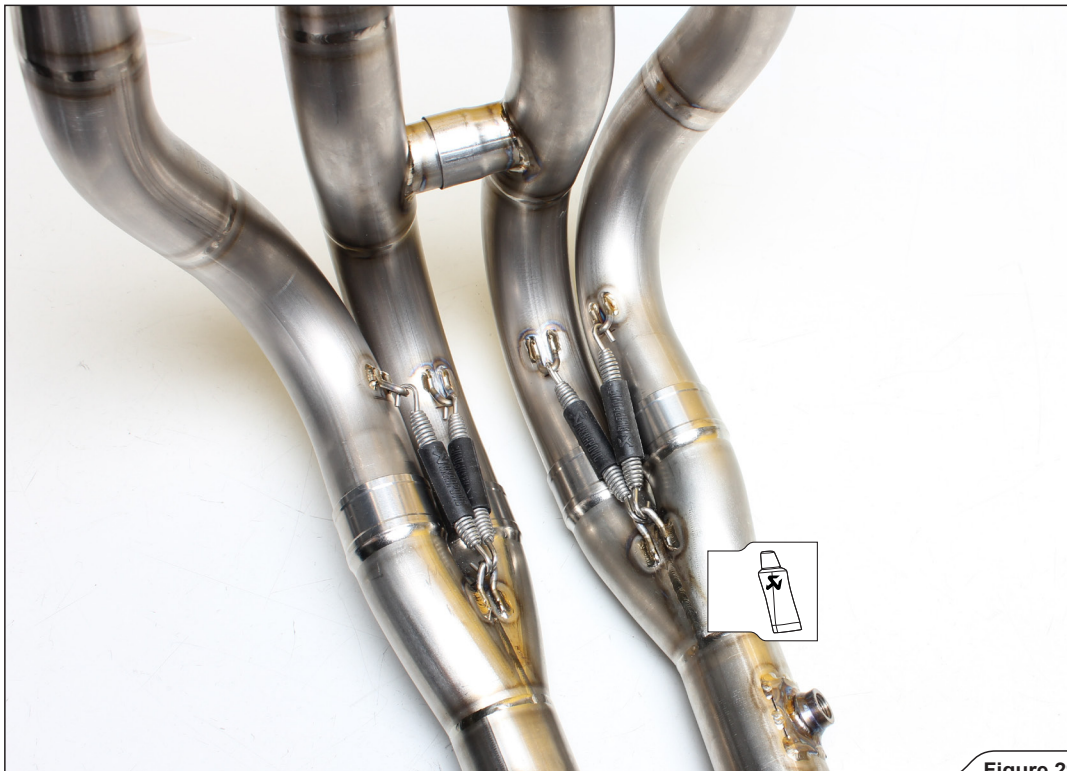

Figure 29
7. Slide the collectors onto the header tubes and attach the springs (Figure 29).